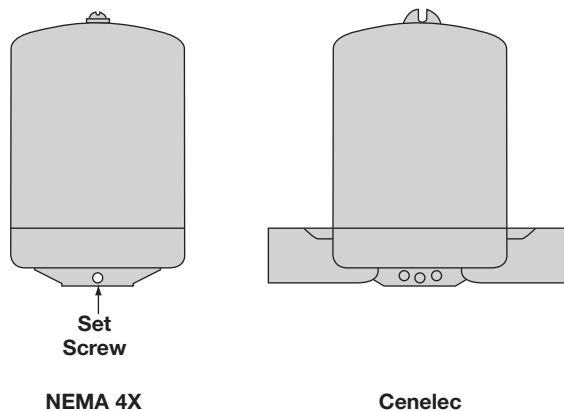

Figure 4
1. Loosen set screw at base of the switch housing. Refer to Figure 4.